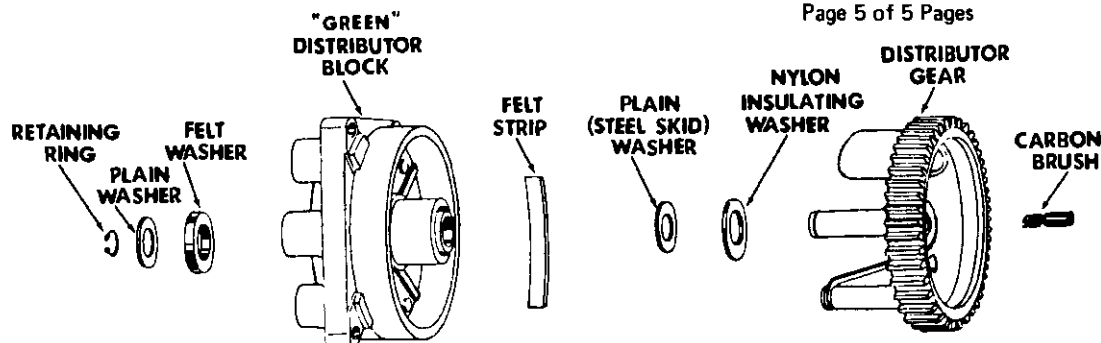

Figure 6. Distributor Gear/Block Exploded View
B. For reassembly, reference figure 6 and proceed as follows: